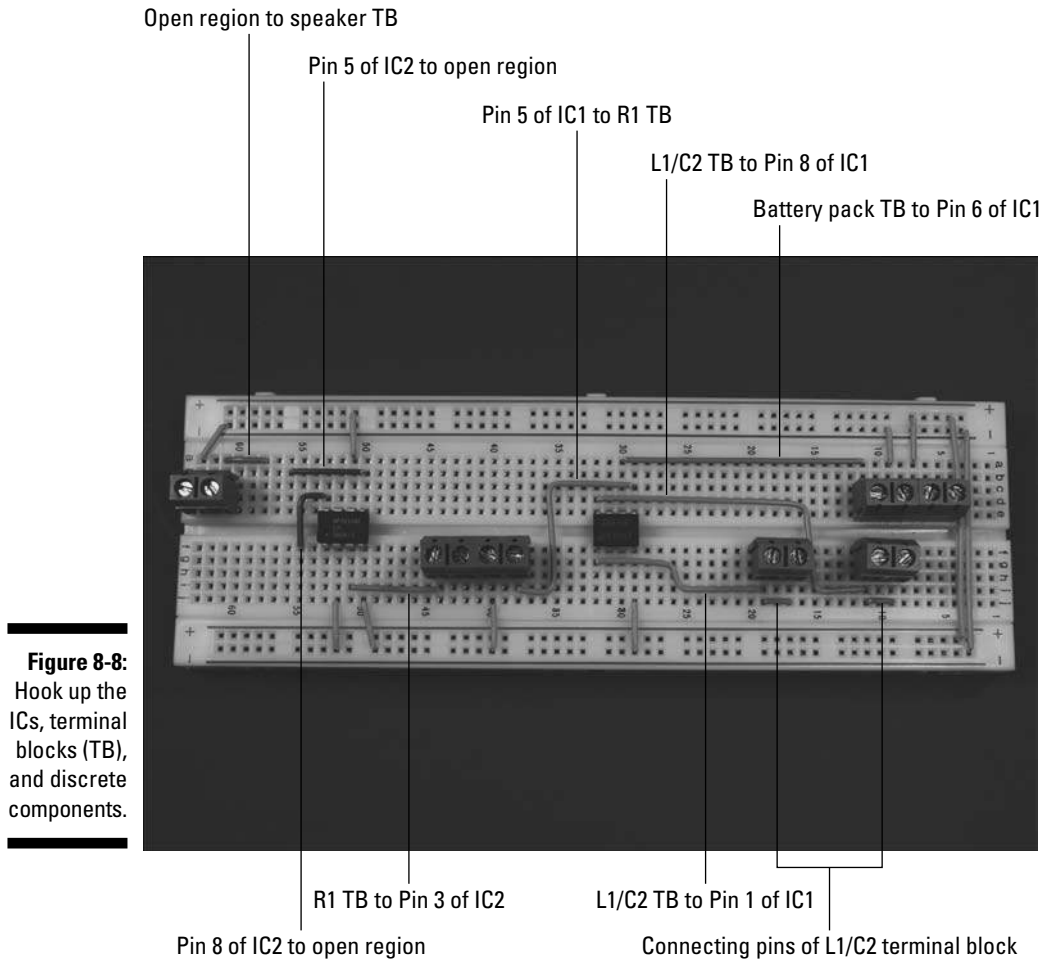

Figure 8-8:
4. Insert wires to connect the ICs, terminal blocks for the coil (L1), variable capacitor (C2) and terminal blocks for the potentiometer (R1), and terminal block for the speaker and discrete components, as shown in Figure 8-8.